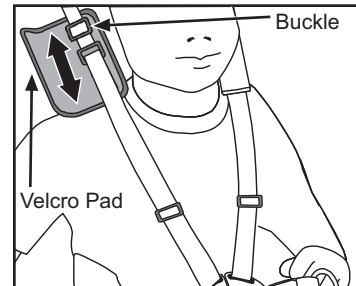

Fig. 18 Adjust Shoulder Straps.
- Adjust shoulder strap height. Adjust height of shoulder strap to fit just above child shoulder height (Fig. 18).
- Adjust shoulder strap. Open Velcro pads. Slide buckle up or down to adjust straps. Seat harness should fit snug and be comfortable (Fig. 18).